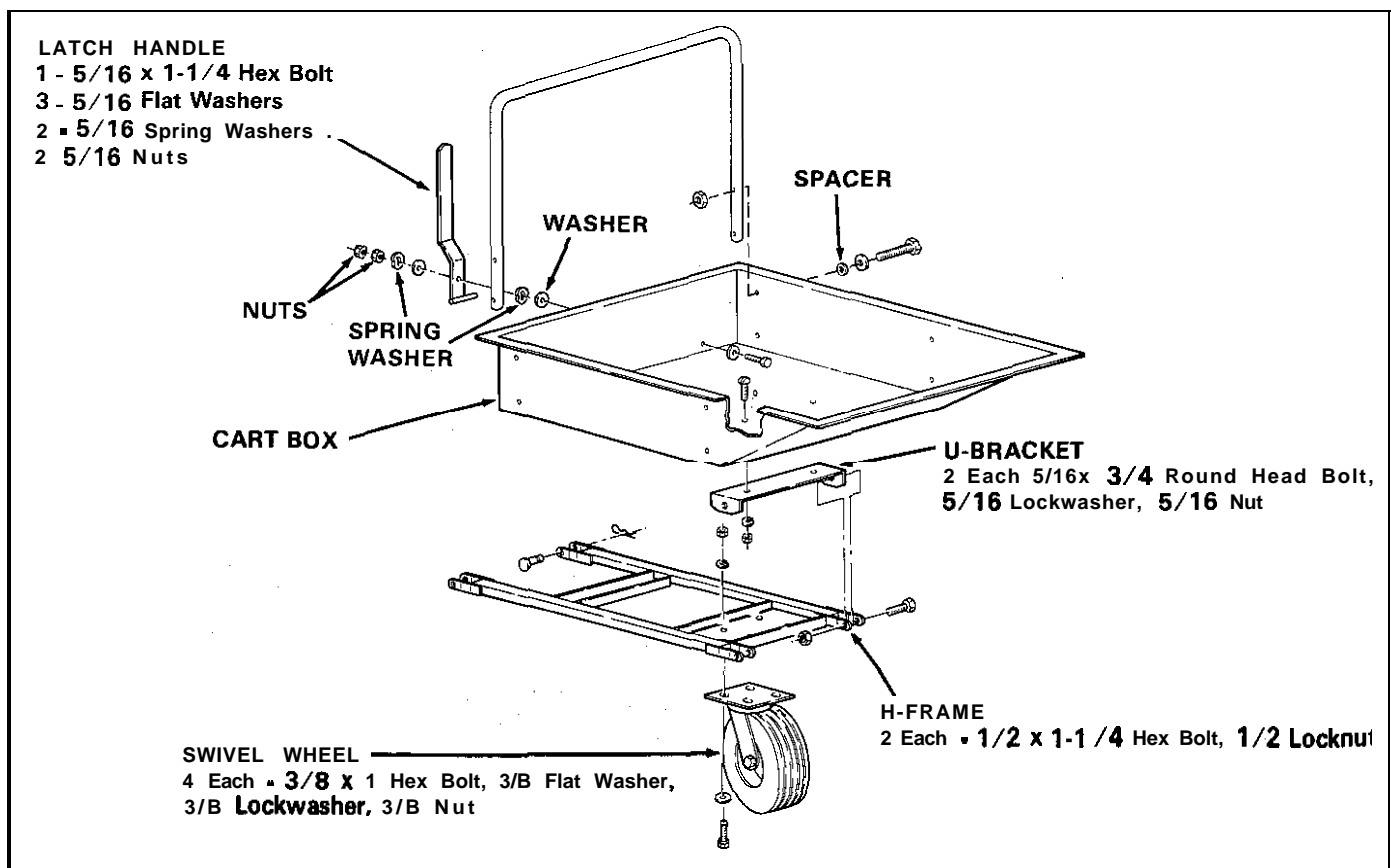

Figure 16.
1. Remove all parts from inside the cart's box. Open the bag of parts and sort the fasteners into groups for **easier assembly** of the cart (figure 16).